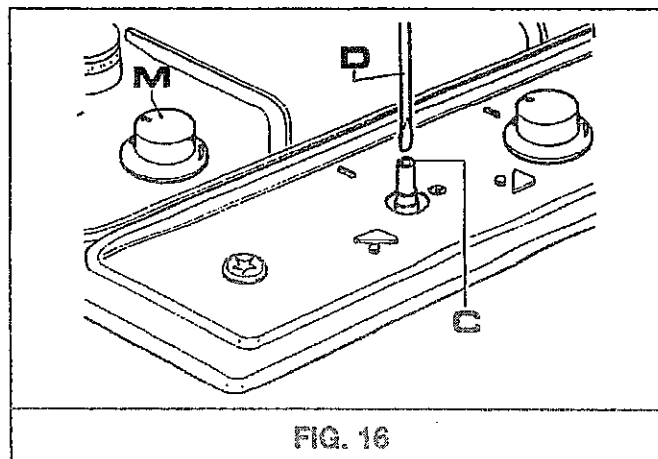

FIG. 16
- Remove knob "M" (fig. 16) of the tap, which is simply pressed on to its rod.
- Insert a small screwdriver "D" into hole "C" (fig. 16) and turn the throttle screw to the right or left until the burner flame has been adequately regulated to the "Reduced rate" position.